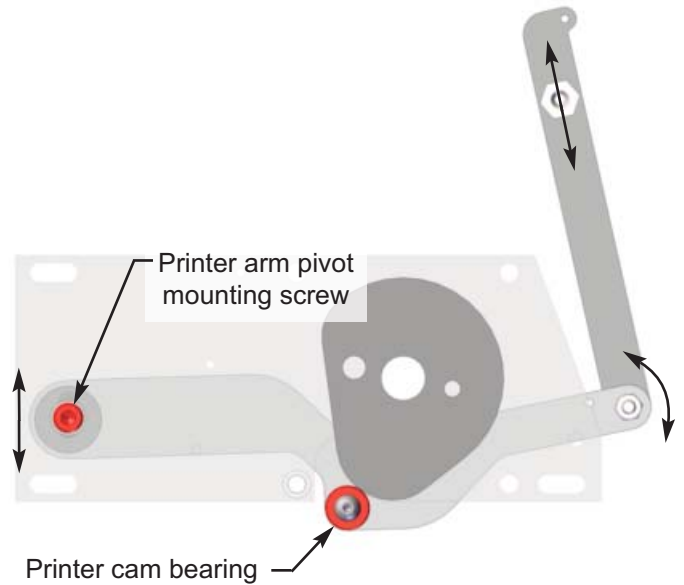

Figure 3.22
3. Identify the printer cam bearing (Figure 3.22) which is behind the stop cam. While looking below the stop cam, manually press and release the printhead. The cam bearing will move as the printhead moves.
4. Jog the mechanism until the printer cam bearing (Figure 3.22) is contacting the highest point on the lobe of the printer cam (Refer to Part V, this section).
8. Identify the printer arm pivot mounting screw (Figure 3.22) on the motor mounting plate attaching the pivot to the motor mounting plate. (The pivot is behind the motor mounting plate). Loosen the screw. As the screw (and pivot) is moved up and down, the printhead will move in the opposite direction.
V. JOGGING THE CLOSER AND PRINTER MECHANISM: (Figures 3.22 and 3.23)
Use the following procedure to jog the printer mechanism to the position shown in Figure 3.22:
Continue to jog the closer until the printer cam is in the position shown in Figure 3.22.